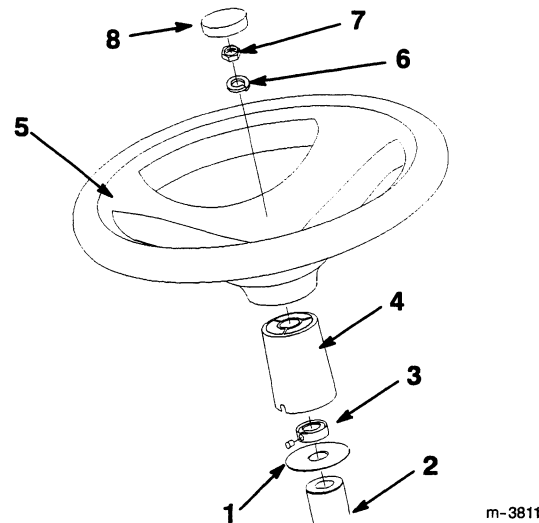

Figure 2
4. Secure the steering wheel to the shaft with a lock washer and nut (Fig. 2). Tighten the retaining nut to 45-50 ft-lbs.
5. Install the trim cover on the steering wheel (Fig. 2).
6. Lift up on the spacer until it is tight against the steering wheel and slide the lock ring up tight against the spacer (Fig. 2).
7. Secure the lock ring in place using the set screw (Fig. 2).
1. Slide the boot washer, lock ring with set screw, and spacer (large end down) onto the steering shaft (Fig. 2).
2. Remove the plastic trim cover from the steering wheel (Fig. 2).
3. Install the steering wheel onto the shaft, carefully aligning the splines (Fig. 2).